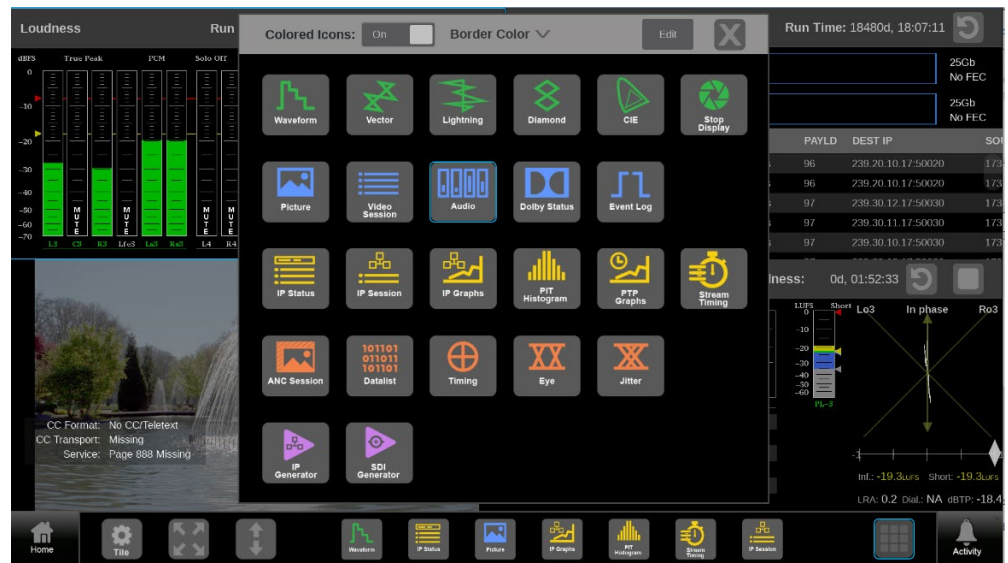

Figure 7: PRISM application menu
Figure 7 shows the application menu, which has all the available applications, open in front of 4 tiled applications. The application menu is different depending on the options purchased.
3. If an application is not available on the application tool bar, select the  icon, at the right of the application tool bar, to open the application menu, which shows all available applications, and select the application. See Figure 7.